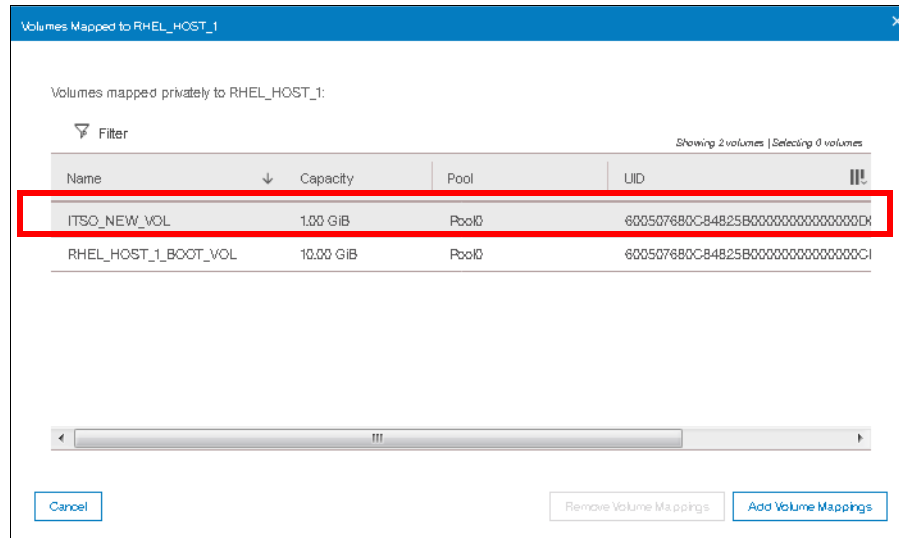

Figure 6-50 Volumes mapped to a host
8. A window will pop up showing volumes currently mapped to the selected host as shown in Figure 6-50 on page 310.